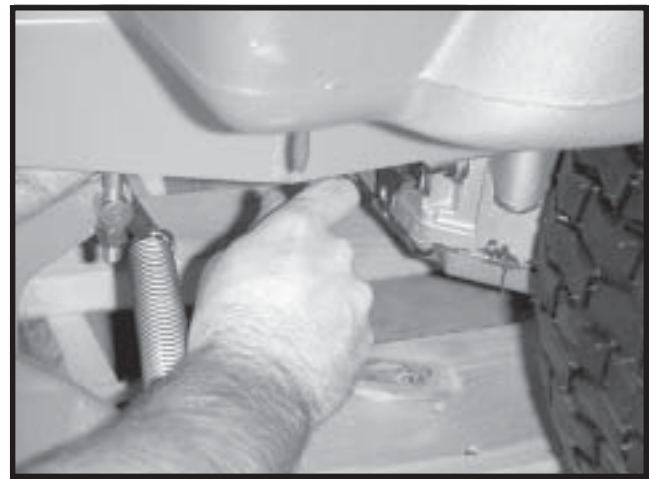

FIGURE 5
2. Using a 7/16" socket ratchet and a 5/32" hex allen wrench, remove the hardware fastening the dampener under the frame. Repeat on other side. See Figure 5.